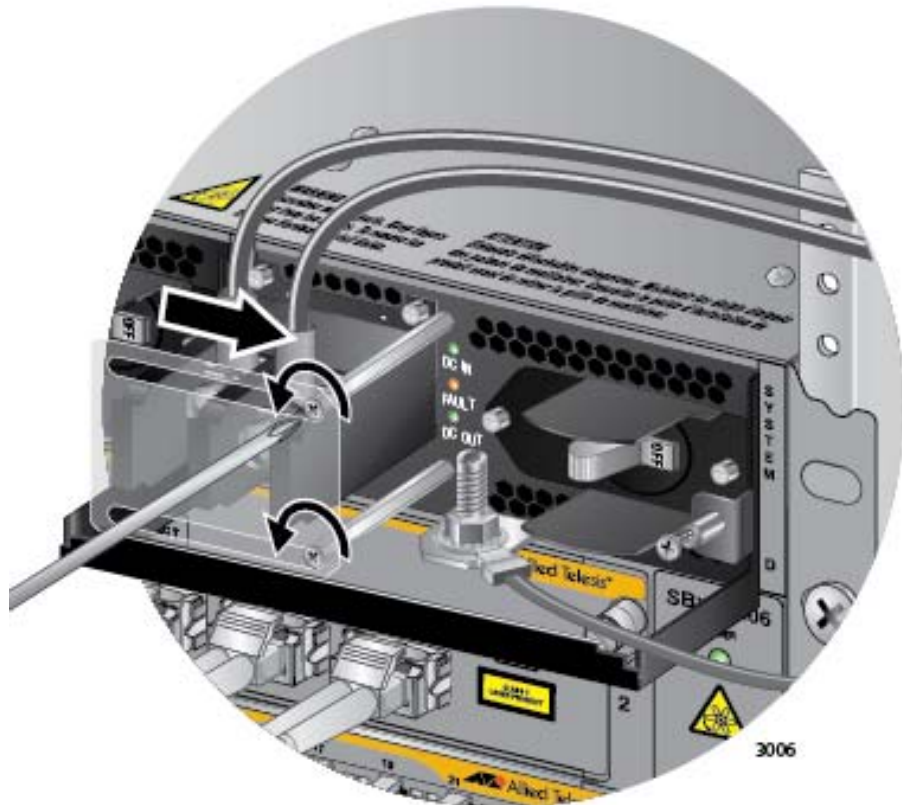

Figure 161. Opening the Plastic Window on the Terminal Block
4. Use a #1 screwdriver to loosen the two screws that secure the plastic cover over the terminal block and slide the cover to the right. You may need to slightly lift the locking handle to access the bottom screw. Refer to Figure 161.